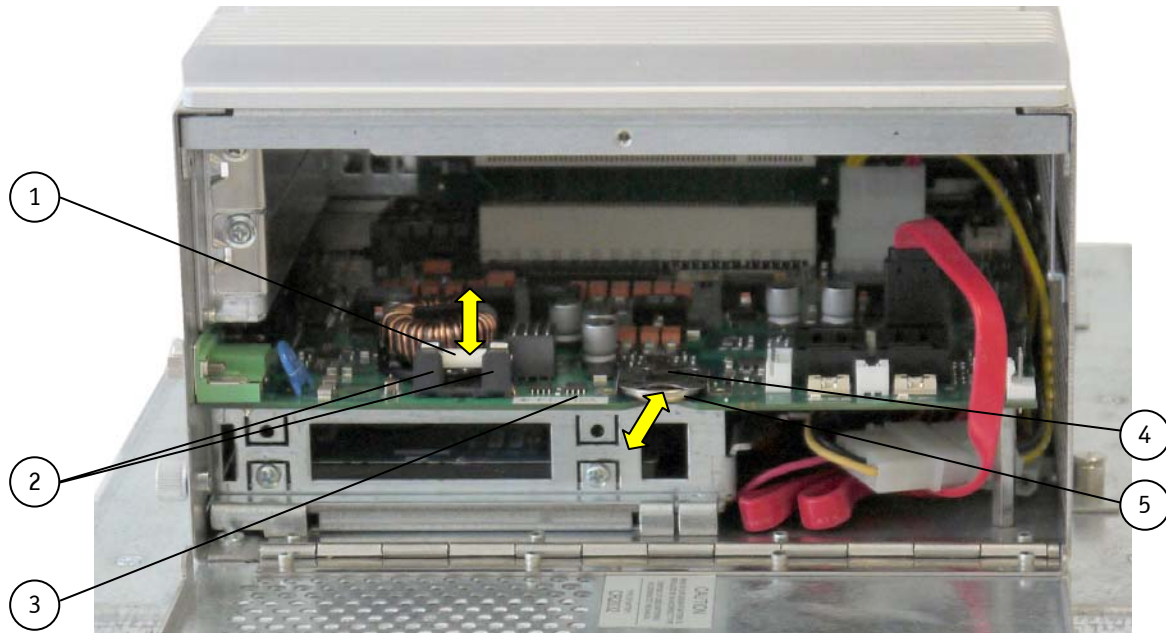

Fig. 27: Detail of the V Panel Express – OPERATOR ACCESS AREA
2. Pull the battery (Fig. 27, pos. 6) outwards.
3. Position the Lithium battery in the Lithium battery holder (Fig. 27, pos. 4) with the positive (+) terminal face-up. Gently push the battery into the holder in as far as it goes.